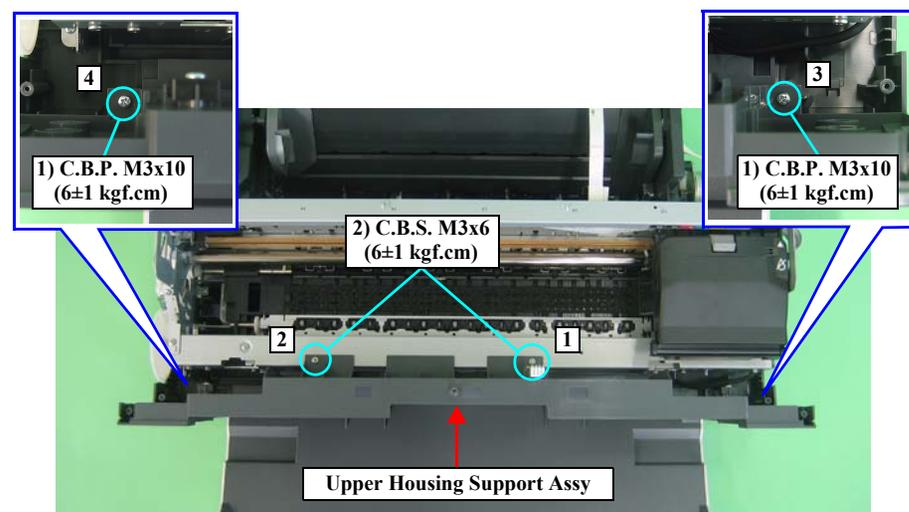

Figure 3-29. Removing the Upper Housing Support Assy
- Tighten the screws in the order shown in Figure 3-29.